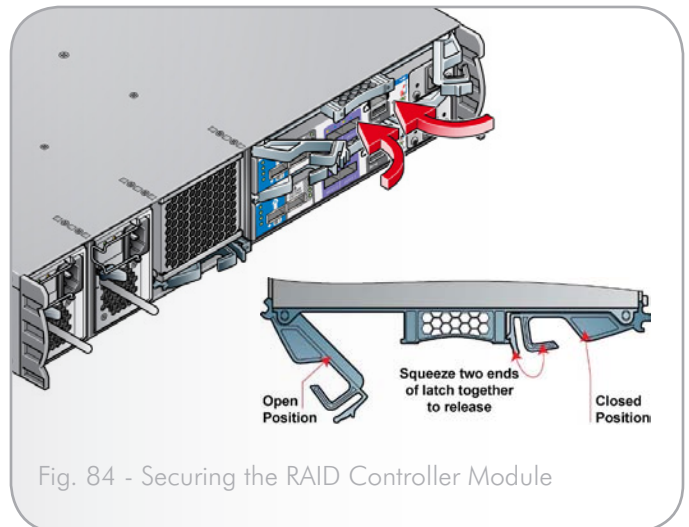

Fig. 84 - Securing the RAID Controller Module
3. Secure the module by manually closing the latches (see Fig. 84). A click should be heard as each latch is engaged.